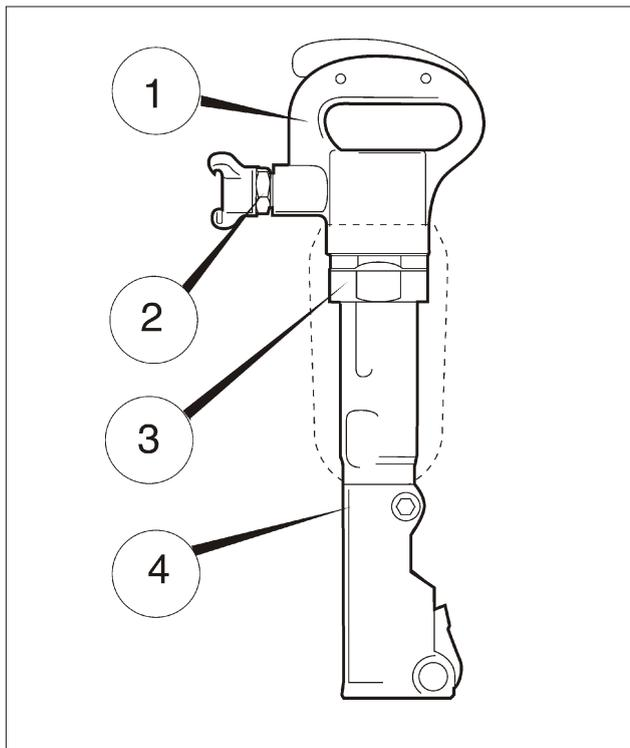

Fig. 7
**TEX 10****Tightening torques (fig 7)**